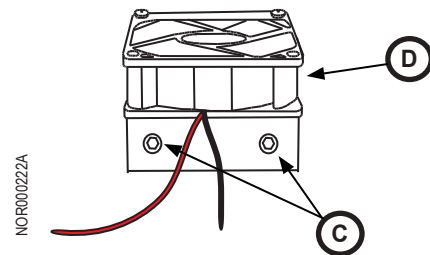

Fig. 7 - Fan Mounting
2. Remove fan screws (Fig. 7, C) (2x) from fan / bracket assembly. Remove fan / bracket assembly (Fig. 7, D) and lay aside.